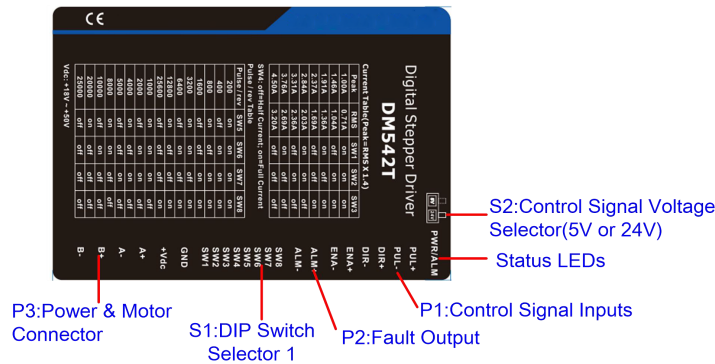

Figure 2 Connectors, DIP switches, and LED locations
PUL+	Pulse and Direction Connection: (1) Optically isolated, high level 4.5-5V or 24V, low voltage 0-0.5V (2) Maximum 200 KHz input frequency (3) The width of PUL signal is at least 2.5μs, duty cycle is recommended 50% (4) DIR signal requires advance PUL signal minimum 5 μs in single pulse mode (5) The factory setting of control signal voltage is 24V, must need to set S2 (figure 2) if it is 5V
The DM542T(V4.0) can accept can accept differential or single-ended control signals (pulse, direction, and enable) in open-collector or PNP connection through the P1 connector (figure 2). It is recommend to add an EMI line filter between the power supply and the drive to increase noise immunity for the drive in interference environments.
- (1) ENA signal is no-connected as default;
- (2) Control signal amplitude is 24 V as default. If it is 12 V, please set the S2 (Figure 2) selector switch to 5 V first, then connect 1KΩ resistor; If it is 5V, please set the S2 to 5V.
The second 1-bit selector is located on the top (S2 in figure 2), used to configure the voltage of control signals. For the safety of optically coupled, the factory setting is 24V, which no need to connect 2K resistors like the old drives, making it easier to use. When the voltage of the control signal is 5V, the S2 must be set to 5V, otherwise, the motor won't work.